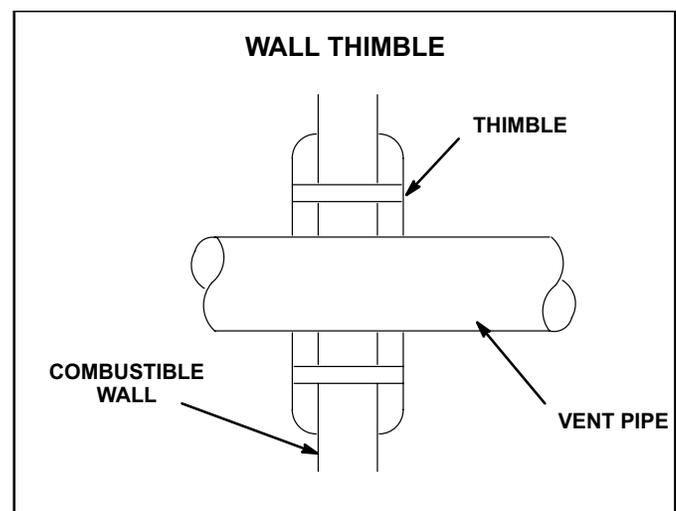

FIGURE 7
- 8- The vent may pass through a wall where provisions have been made for a thimble as specified in the Standards of the National Board of Fire Underwriters. See figure 7.